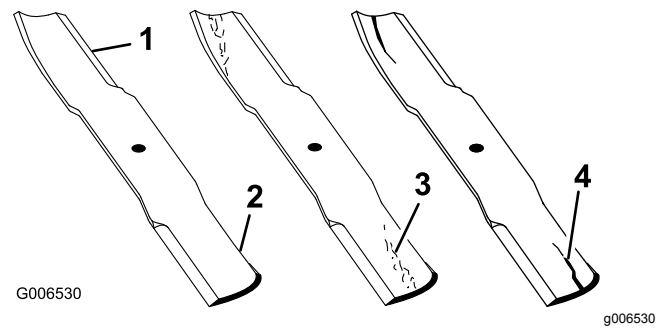

Figure 104
1. Inspect the cutting edges (Figure 104).
4. If you notice any cracks, wear, or a slot forming in this area, immediately install a new blade (Figure 104).